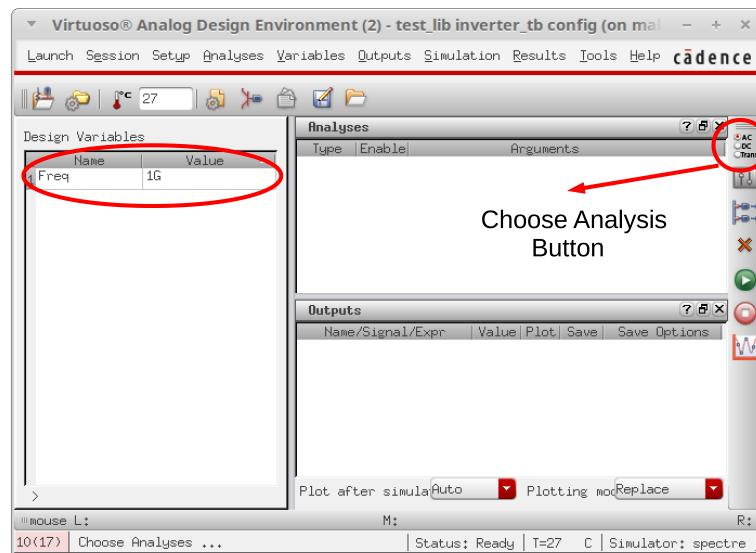

Figure 28: Setting the Design Variables
3. As you recall from Section 3.3 we didn't define the frequency of the input signal, but instead used the variable *Freq*. To be able to run a simulation this variable must be first defined. Click on Variable→Copy From Cellview. You will notice that *Freq* is now inserted in the section "Design Variables" in the left side of the ADE window. Set its value to 1GHz (see Fig. 28).
to a time varying input signal (in this case a pulse waveform). To setup the analysis just click on the "Choose Analysis" icon on the top right side of the ADE window (see Fig. 28). Listed below are the instructions to set-up the DC and the transient analysis: